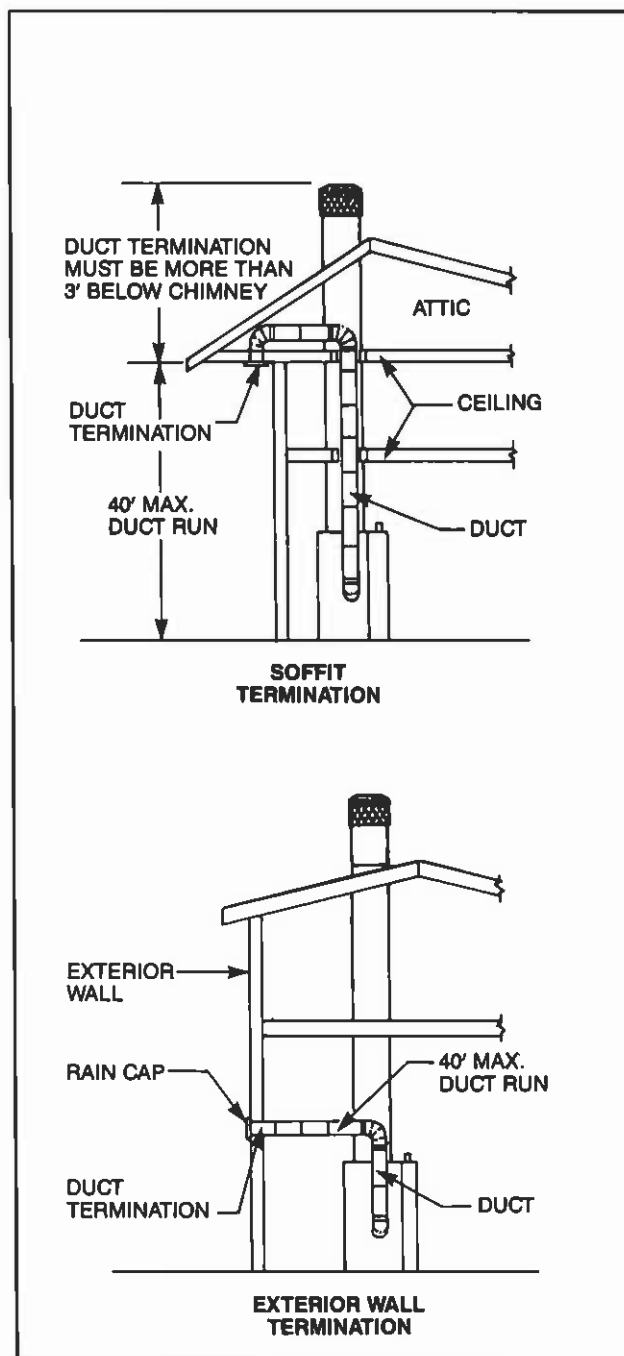

Fig. 2 Typical installations.
Duct run must be limited to a maximum distance of 40 feet from the fireplace pipe collar to duct termination. This will provide the least restriction to air flow. No more than four 90° elbows can be used. Duct run may be horizontal, vertical, inclined or any combination of these. Vertical duct runs must be at least three (3) feet below the fireplace chimney flue exit. (See Fig. 2.) You are now ready to install the MBA-36A Outside Air Kit.